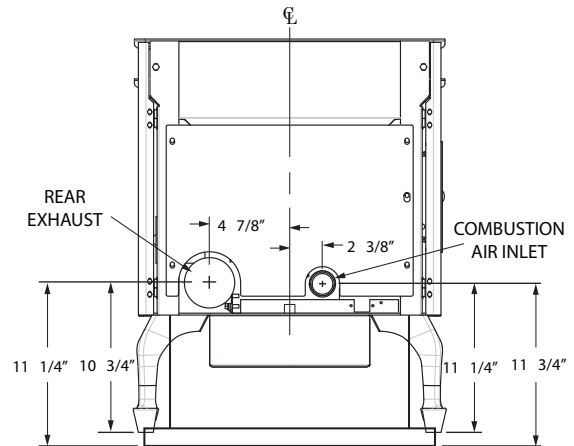
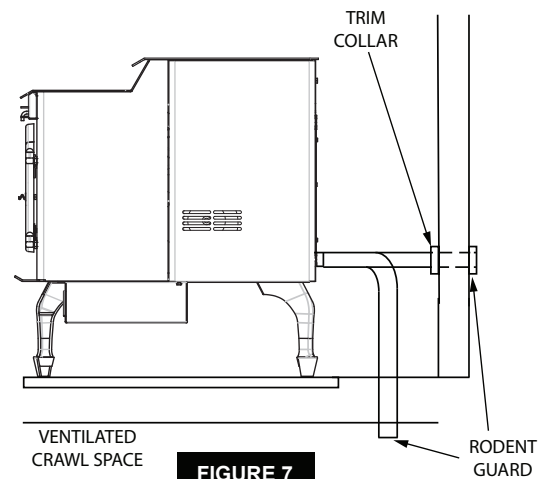

FIGURE 5
FIGURE 7
For a mobile home installation the stove must be connected to an outside source of combustion air. A 2" inside diameter metallic pipe, either flexible or rigid, may be attached to the inlet at the stove's rear (refer to figures 5 and 6). A rodent guard (minimum 1/4" wire mesh)/wind hood must be used at the terminus (refer to figure 7). All connections must be secured and airtight by either using the appropriately sized hose clamp and/or UL-181-AP foil tape.
2. Locate position of hole in wall; directly behind stove exhaust vent (refer to figure 5).